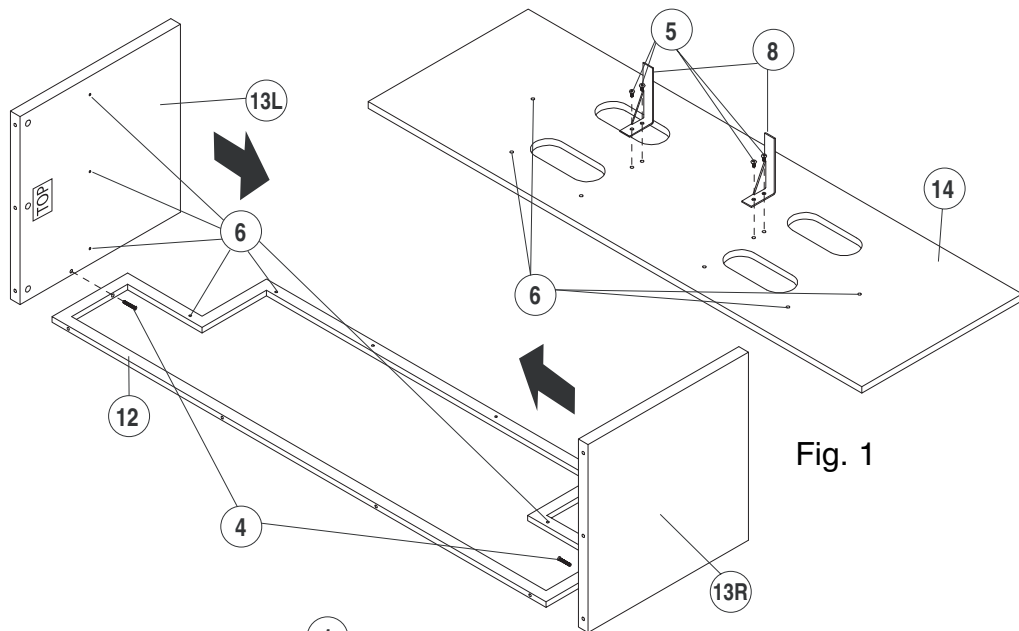
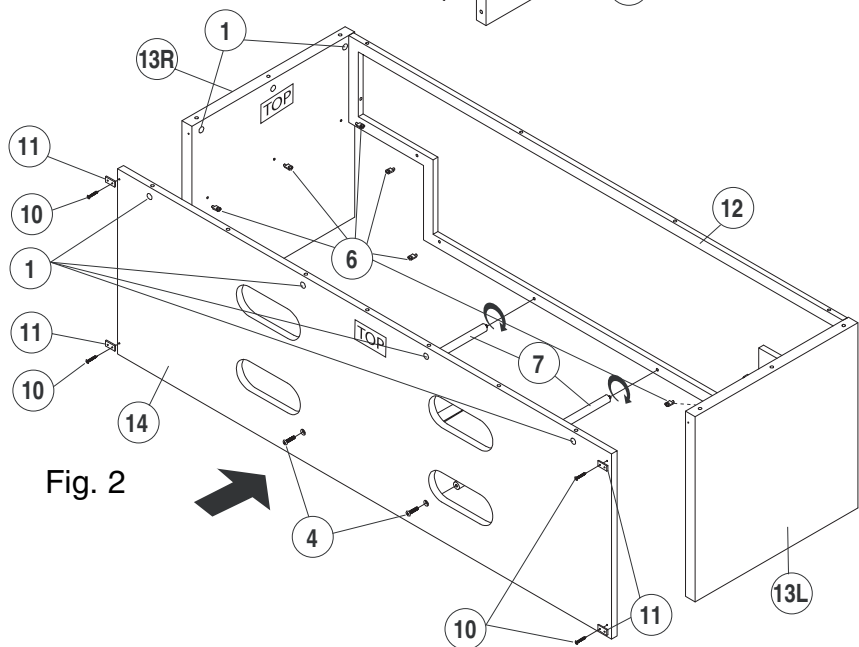
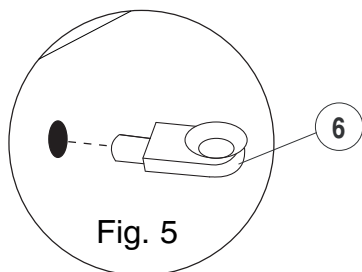
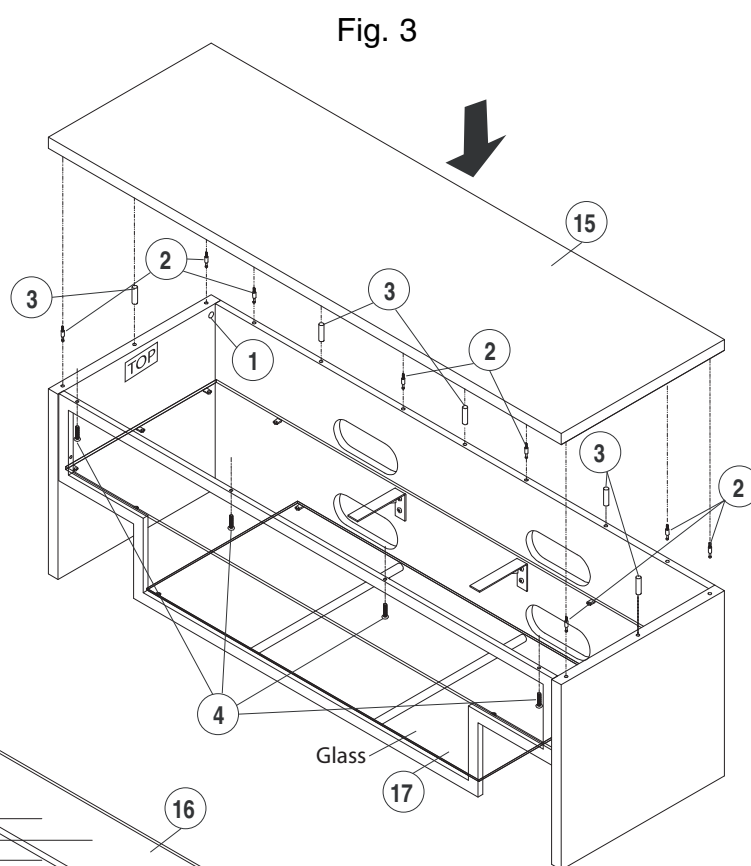

Fig. 1
Fig. 2
Fig. 5
Fig. 3
A. PLACE the front frame (12) flat on a soft surface. POSITION one side panel (13L) against the outside of the frame with the pre-drilled holes facing towards the inside of table with the TOP sticker facing forward as shown in Fig. 1. INSERT one larger 6*45 mm bolt (4) through the frame and SECURE the end panel to the frame. DO NOT OVERTIGHTEN.
C. Leave the partially assembled table as is and move on to the CMS® (Cable Management System) rear panel (14).
D. CAREFULLY PLACE the CMS® rear panel (14) flat on a soft surface, with the inside facing upwards. NOTE: the OUTSIDE of the rear panel is identified by the TOP sticker. ATTACH the two L-bracket shelf supports (8) to the middle of the inside rear panel using two smaller 6*15 mm bolts (5) as shown in Fig. 1.
E. INSERT four cam locks (1) into the top rear of the CMS® panel (14) as shown in Fig. 2. PLACE four shelf support pins (6) into the holes on the inside of the rear panel with the rubber pads facing upwards, and positioned as shown in Fig. 1 and Fig. 5.
F. RETURN to the partially assembled table and SCREW the threaded ends of the bottom shelf support bars (7) into the holes on the inside of the bottom of the front frame (12). PLACE three of the shelf support pins (6) into holes located in the insides of each of the end panels (13L&R) with the rubber pads facing upwards. PLACE four of the shelf support pins (6) into the holes on both sides of the inside of the middle bar and bottom bar of the inside front frame (12) with the rubber pads facing upwards, and positioned as shown in Fig. 2.
G. CAREFULLY PLACE the back CMS® panel (14) against the rear of the table. ALIGN the bottom shelf support bars (7) and SECURE them, from the rear, to the back panel using two 6*45 mm bolts (4).
H. INSERT a wooden dowel (3) into the center hole located at the top edge of each side panel (13). INSERT two cam locks (1) into the holes located along the inside top of each side panel (13L&R) as shown in Fig. 3. INSERT 3 wooden dowels (3) into the holes along the top edge of the back CMS® panel as shown in Fig. 3.
J. PLACE the table top (15) on a soft surface with the underside (the side with the pre-drilled holes) facing upwards. SCREW a cam lock pin (2) into the inserts in the two outer holes at each end of the underside of the table top panel (15) and SCREW four cam lock pins (2) into the inserts located along the rear underside of the table top panel (15) as shown in Fig. 3.
K. CAREFULLY ALIGN the Cam lock pins (2) that have been previously inserted into underside of the table TOP with the matching holes and dowels (3) that have been previously inserted into the top edges of the side panels (13L&R) and CMS® rear panel (14) and JOIN the table TOP to the table.
L. TURN the cam locks (1) located on the inside top of the table sides (13L&R) and top rear of the CMS® rear panel (14) CLOCKWISE to tightly join all panels. DO NOT OVERTIGHTEN. INSERT two 6*45 mm bolts (4) through the underside of the front frame (12) top and SECURE to the underside of the table top as shown in Fig. 3.
M. POSITION and ALIGN the metal plates (11) at the rear of the table with the pre-drilled holes located near the four corners where the back of the CMS® rear panel (14) and the back edge of the side panels (13L&R) meet, and SECURE the metal plates (11) with the 4*15 mm screws (10).